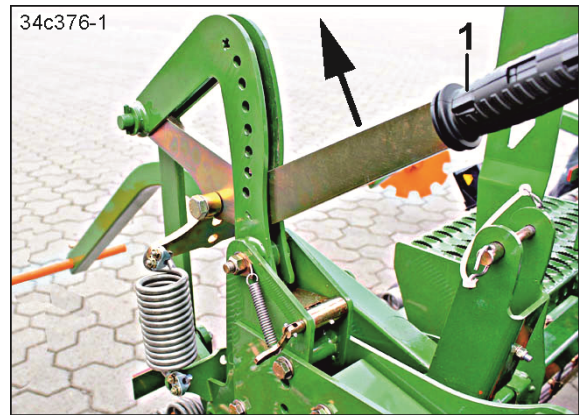

Fig. 197
4. Pull the lever (Fig. 197/1) in the direction shown by the arrow.